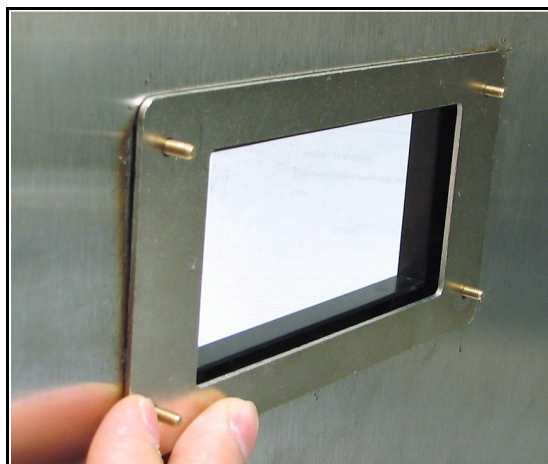

Figure 18: Applying the Backing Plate
3. Behind the panel, place the metal backing plate over the four adapter plate mounting screws (see Figure 18).